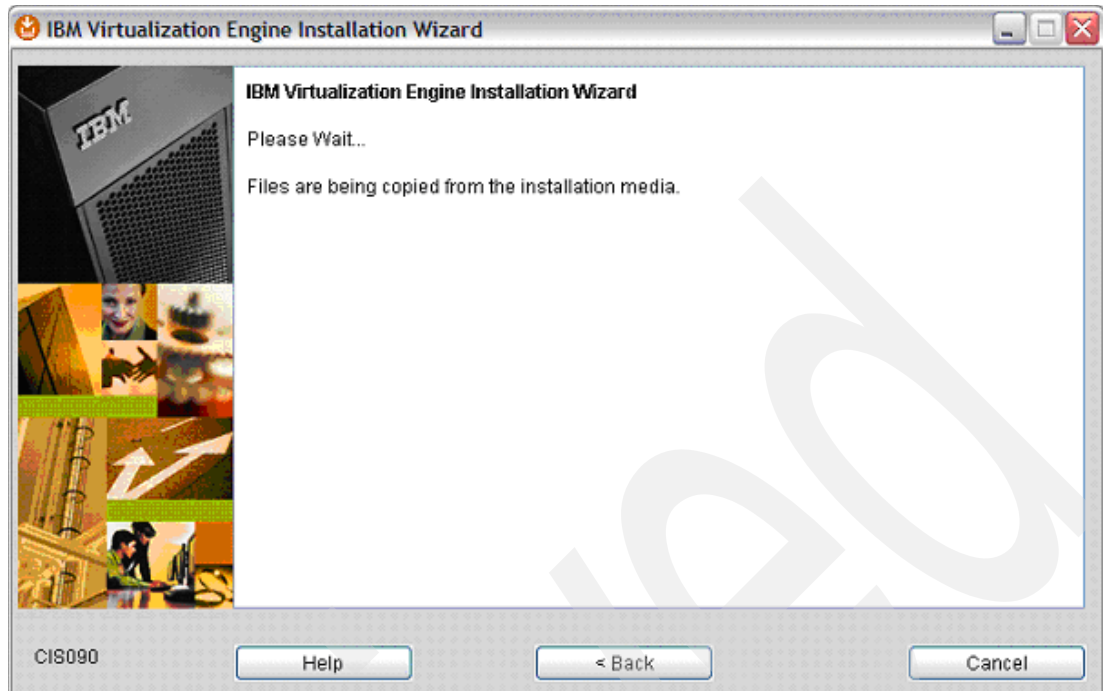

Figure 5-16 Please Wait window
11.A Please Wait window (Figure 5-16 on page 122) opens to indicate that the installation files are being copied from the installation media to the temporary directory.